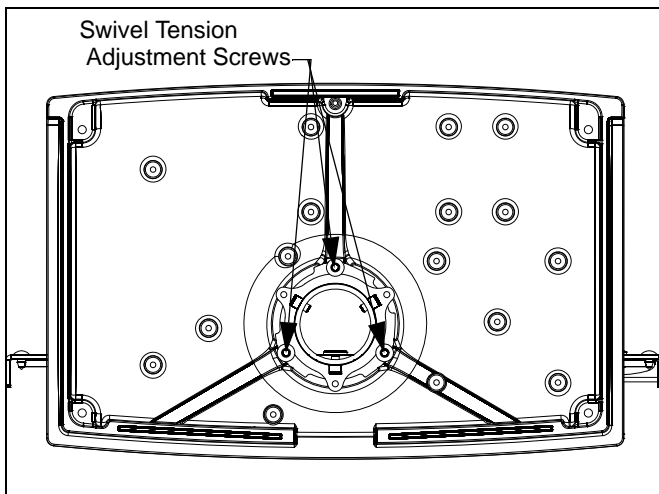

Figure 6
2. If tension adjustment is necessary, slightly tighten or loosen adjustment screws on bottom of PSS2000. (See Figure 6)